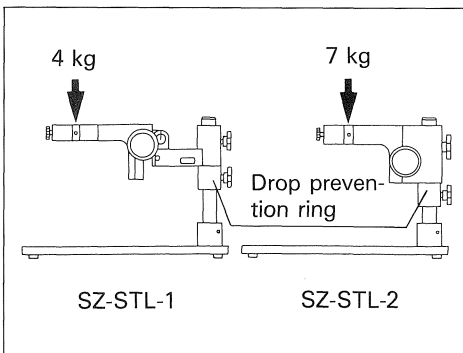

Fig. 2
- 1) Arm load (Fig. 2)
- (5) To prevent unintentional dropping of the microscope body (particularly the arm) be sure to secure the drop prevention ring so that it makes contact with the arm. (Fig. 2)
- (6) When placing specimens, such as printed circuit boards (which are susceptible to static electricity) onto the platform use a conductive mat or similar material.